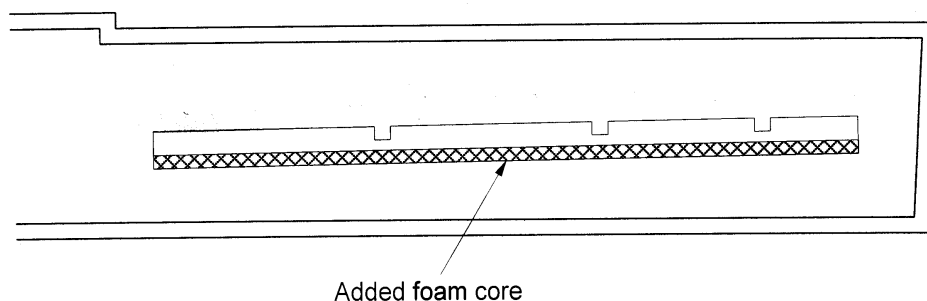

Fig 4. Added foam - plan view.
3. Cut the supplied 5mm thick foam strip to fit between the existing stiffener and your marked line, chamfering the edges both to fit the stiffener and to allow the layup to run down easily onto the skin - see figures 4 and 5.